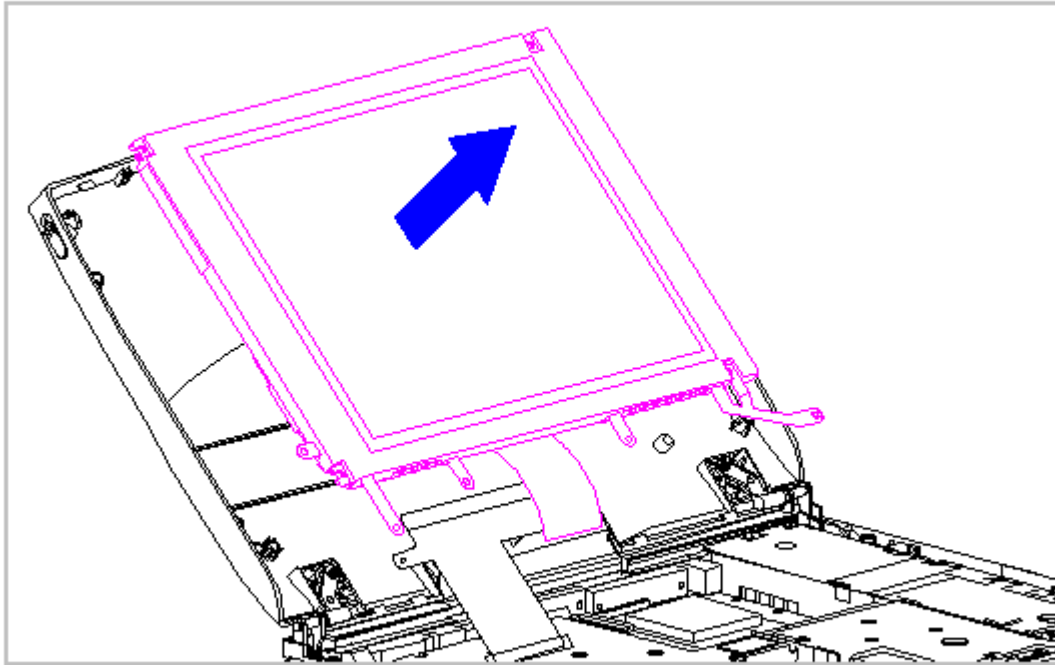

Figure 3-90. Removing the Monochrome LCD Panel and Shield (Models 400 and 410)
12. Carefully remove the Monochrome LCD panel, display cable, and shield from the display enclosure (Figure 3-90).